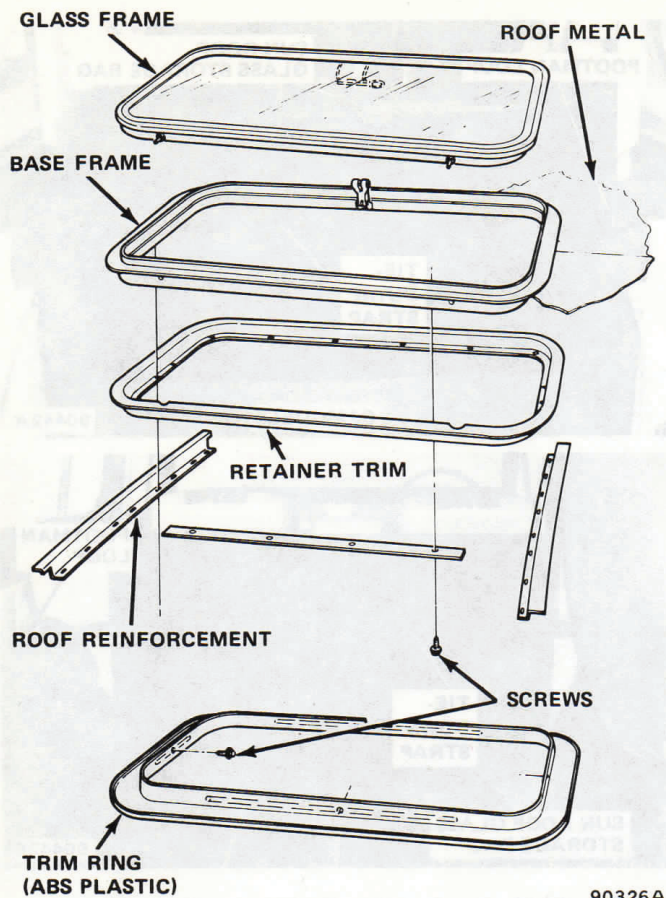
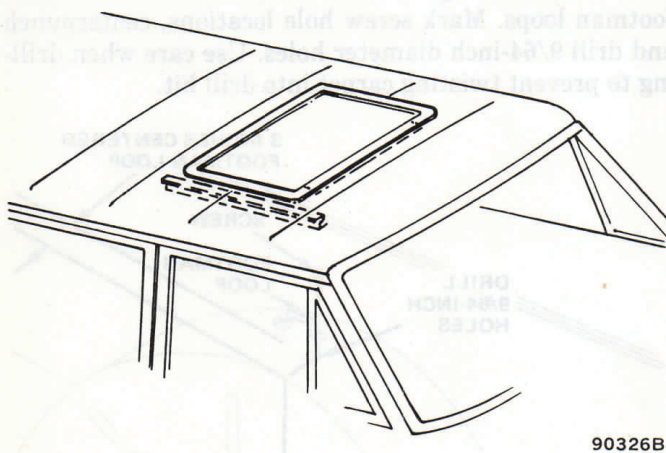

Fig. 14-14 Base Frame and Retainer Trim
Fig. 14-15 Roof Reinforcements and Headliner Support
(4) Cover interior of vehicle with plastic sheeting to catch cutting sawdust.
(5) Centerpunch and drill a 5/16-inch pilot hole at any point on inboard side of cut reference line.
(6) Using a sabre saw with extra long, medium/fine tooth blade, saw sun roof opening in roof and headliner. Remove rough metal edges with file.
(7) Remove cutouts and plastic sheeting with debris.
(8) Remove dome lamp assembly.
(9) Position sun roof base frame into opening on top side of roof.
(10) Position retainer trim from underside of roof and secure to base frame with screws (fig. 14-14). Ensure base frame and retainer trim are firmly seated in roof.
(11) If silicone sealer was used between base frame and roof, smooth and remove excess sealer. Ensure complete seal around perimeter of frame.
(12) Install roof reinforcements and headliner support from underside of roof (fig. 14-15).